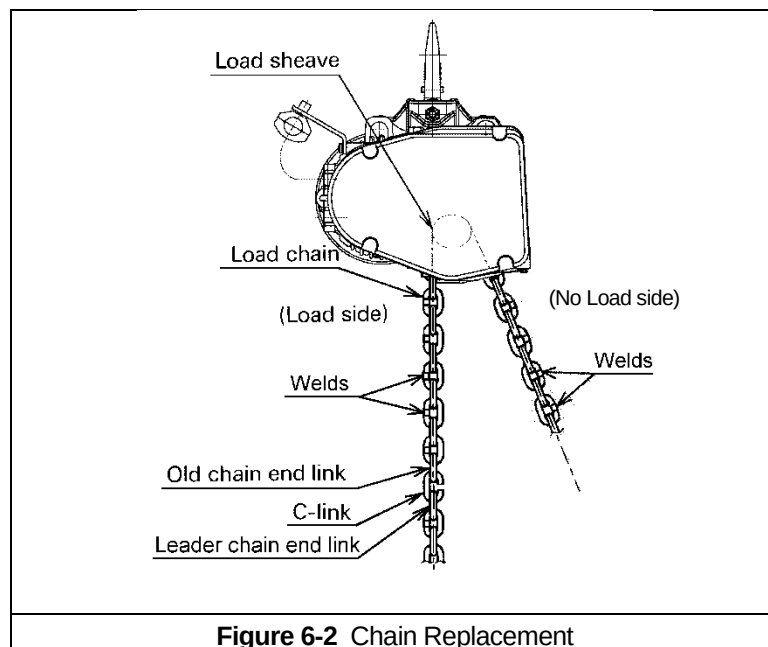

Figure 6-2 Chain Replacement
- 6.3.3 **OIL LEVEL** – Check the oil level by removing the oil plug as shown in **Figure 6-2**. Insert a dip stick to check the oil from the oil check hole. Reference **Figure 6-3** and **Table 6-6** for check distances between the hole and the oil level.
- To drain the current oil from the hoist remove “Oil Plug” on top of the hoist and the “Oil Drain plug” on the bottom of the hoist. Allow the old oil to drain completely. Refer to **Figure 6-2** for oil plug locations.
- 4) Using a C-link, attach the new chain to the end link of the old chain on the no-load side. The end link of the new load chain should be connected so that the welded portions of the load chain's standing links are oriented to the outside as they pass over the sheave. Refer to **Figure 6-2**.